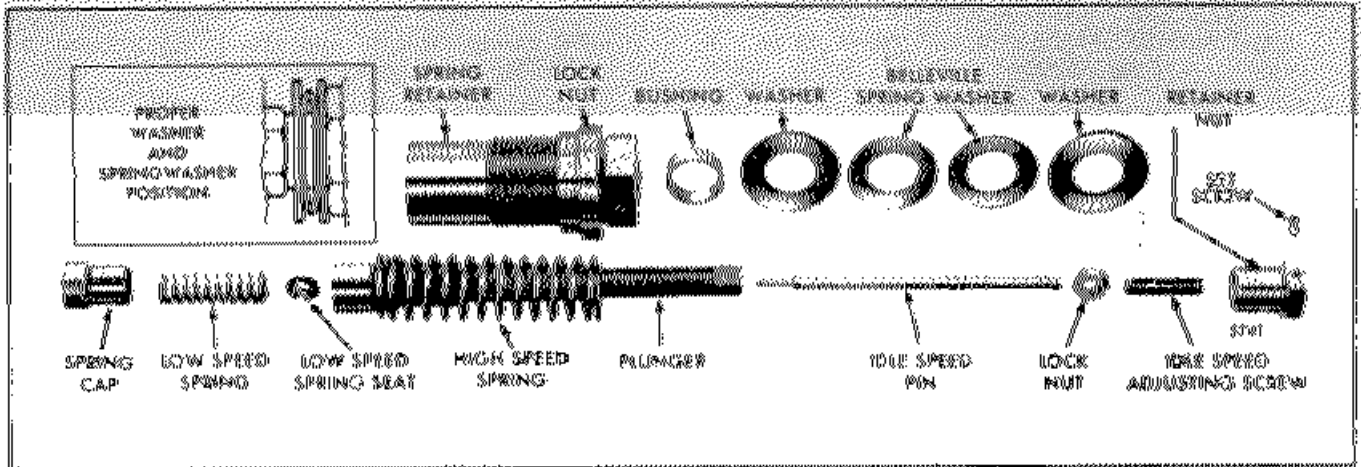

FIG. 23 - High and Low-Speed Springs, and Plunger Details (Fuel Squeezer Engines)
- e. For Fuel Squeezer engines, install the bushing in the end of the high-speed spring retainer (ii removed) and align the two flat washers and two Belleville spring washers as shown in Fig. 23. Then install the set screw in the Belleville spring-retainer nut and thread the retainer nut onto the high-speed plunger.